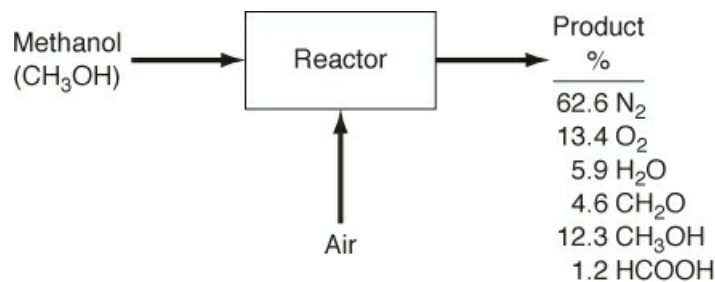

Figure P4.3.3
- **4.3.3** Examine the reactor in Figure P4.3.3. Your boss says something has gone wrong with the yield of CH_2O , and it is up to you to find out what the problem is. You start by making material balances (naturally!). Show all calculations. Is there some problem?